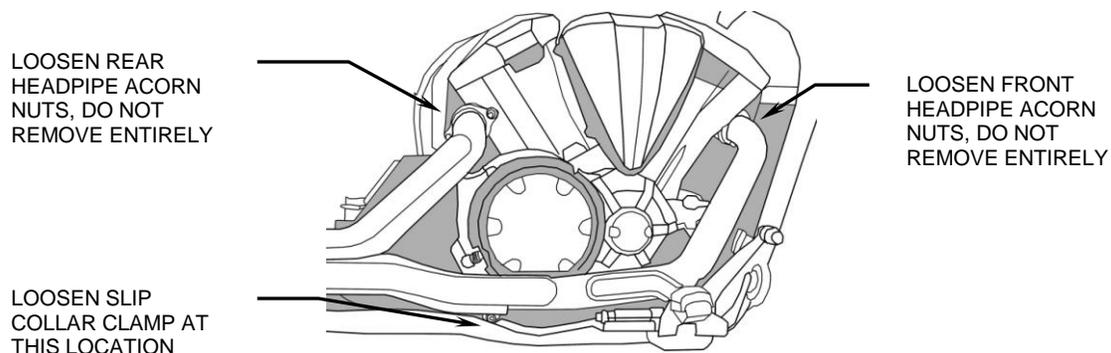

FIGURE 1
1. Remove the stock slip-on muffler and mount in one assembly by removing (3) M10 bolts. Stock mount, clamp and bolts will not be reused.
2. Loosen the front and rear headpipe acorn nuts along with the stock slip collar clamp between front and rear headpipes, but **DO NOT REMOVE**, see Figure 1. This will allow for proper fitment of Cobra supplied muffler and heatshield.